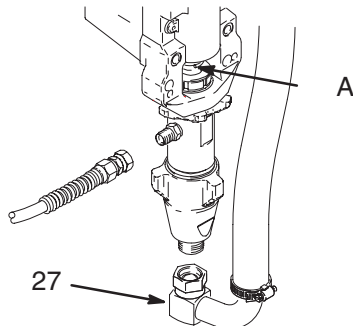

Fig. 16
1. Fig. 16. Flush pump.
3. Cycle pump with piston rod (A) in its lowest position.
4. Remove suction/drain hose (27).